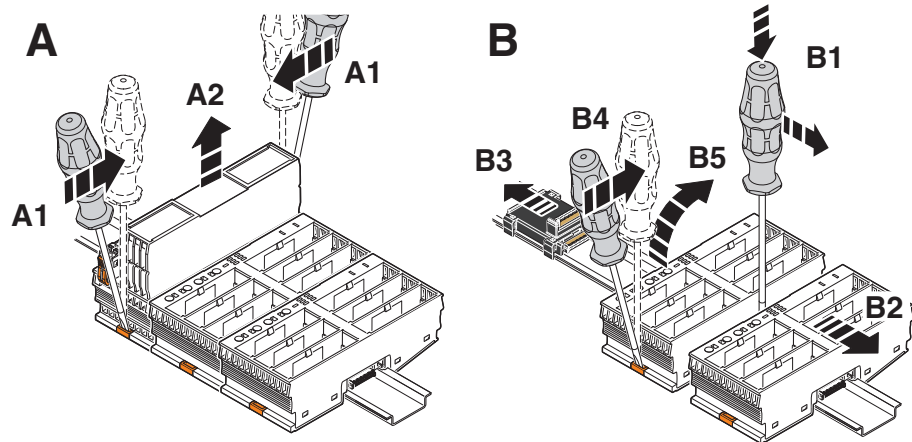

Figure 11-15 Removing the backplane
- Disengage the device from the bus base module (Figure 11-15, A).
- Disconnect the neighboring backplanes from one another by carefully inserting a bladed screwdriver into the groove between the backplanes (Figure 11-15, B1).
- Push the adjacent devices far enough apart that the backplane to be removed no longer has contact to the adjacent devices (Figure 11-15, B2, B3).
- Insert a suitable tool (e.g. bladed screwdriver) into the snap-on mechanism (base latch) of the backplane and release it (Figure 11-15, B4).
- Rotate the backplane away from the DIN rail. (Figure 11-15, B5).